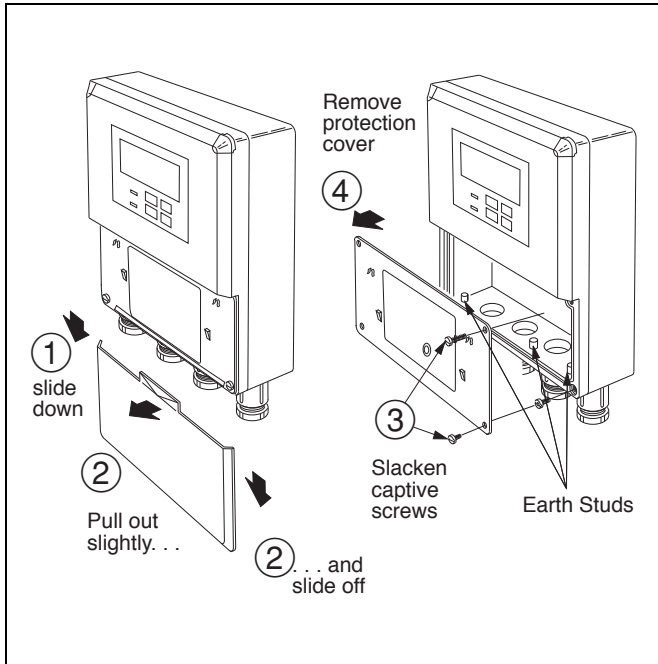
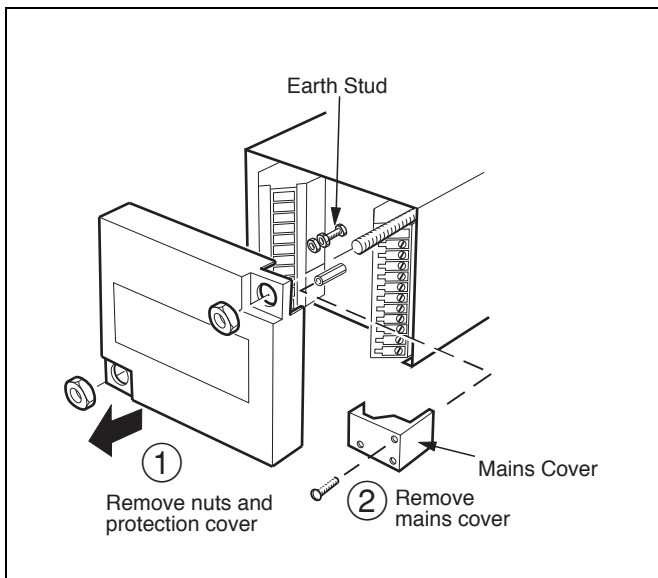

Fig. 3.3 Access to Terminals - Wall Mounted Instrument
Fig. 3.4 Access to Terminals - Panel Mounted Instrument (Rear View)
- ⊕ Earthing (grounding) - stud terminals are fitted to the transmitter case for bus-bar earth (ground) connection - see Fig. 3.3 or Fig. 3.4. It is also recommended that the inlet tubing be earth (ground) bonded.
Note. Refer to Fig. 3.3 for Access to Terminals.
Note. Refer to Fig. 3.4 for Access to Terminals.